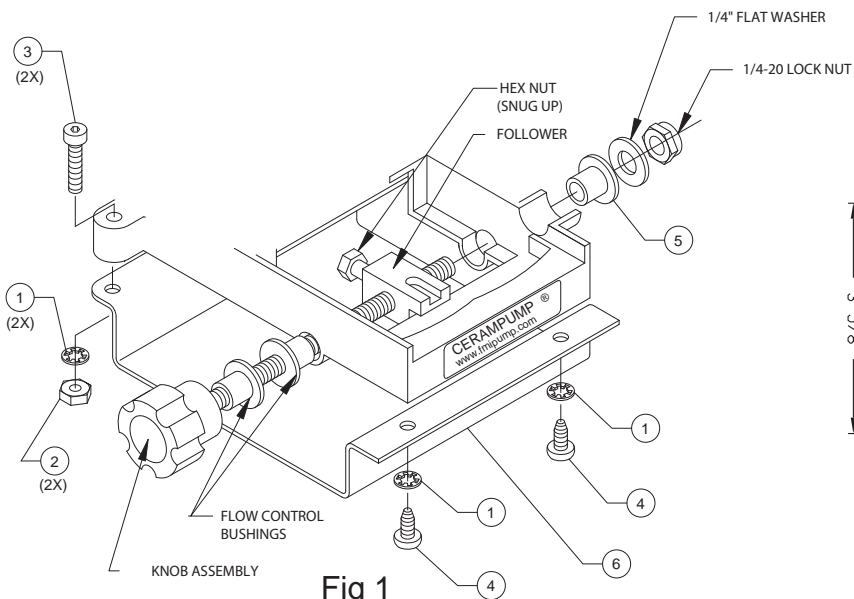

Fig 1
- 4.0 Reverse the stroke adjustment assembly *Remove speed knob from the assembly (Not required), and add Q447 Flow Control Bushing (Refer to Fig 1).
- 5.0 Install Mounting Base Q648 by positioning the Mounting Base under the assembly and lining up the mounting holes. Secure using self tapping screws 110528-6 in the front and Socket Head Screws 110290-12, Lock Washers 110049 and Hex Nuts 110133 in rear (Refer to Fig 1).